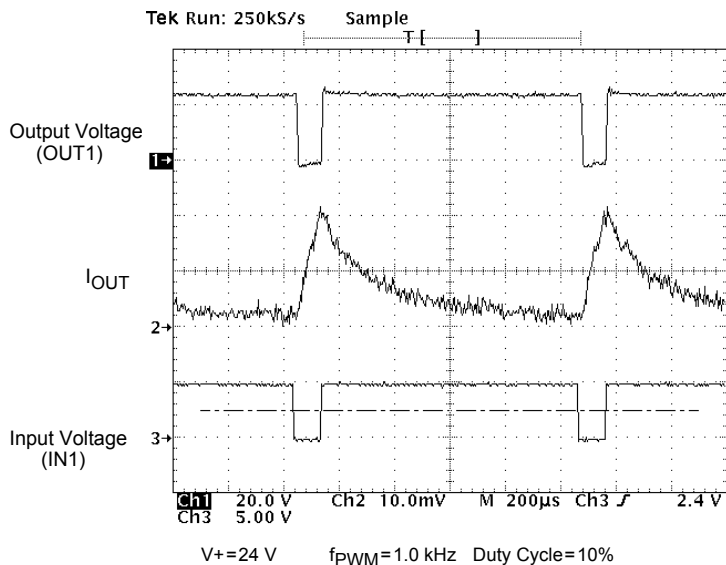

Figure 12. Output Voltage and Current vs. Input Voltage at $V+ = 24 \text{ V}$, PMW Frequency of 1.0 kHz, and Duty Cycle of 10%
- 24 The outputs can be PWM-controlled from an external source. This is typically done by holding one input high while applying a PWM pulse train to the other input. The maximum PWM frequency obtainable is a compromise between switching losses and switching frequency. See Typical Switching Waveforms, Figures 12 through 19, pp. 14–17.